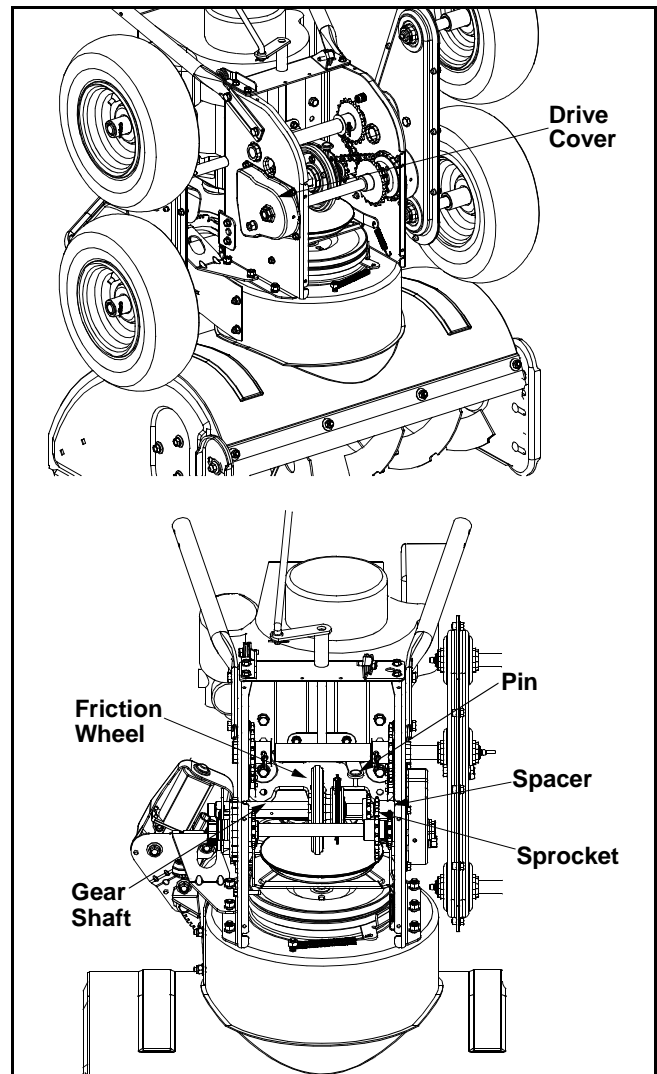

Figure 18
- Remove the four screws securing the left drive cover to the frame. Remove the drive cover from the side of the frame. See Figure 18.
- Holding the friction wheel assembly, slide the gear shaft out of the left side of the unit. The spacer on the right side of the gear shaft will fall and the sprocket should remain hanging loose in the chain. See Figure 18.
- Insert the pin from the shift arm assembly into the friction wheel assembly and hold assembly in position. Refer to Figure 18.
- Insert the gear shaft through the sprocket and the spacer. Make certain that the chain engages both the large and the small sprocket. Refer to Figure 18.